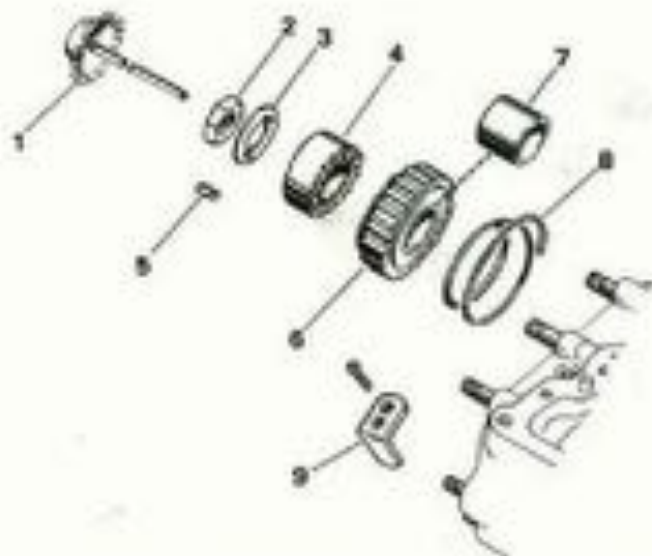

Figure 7-35. Starter Clutch — Exploded View
### Disassembly (Figure 7-35)
2. Remove the push rod assembly (1).
3. See Figure 7-35. Lock the transmission into two gears at once. Bend the lockwasher (5) tab away from the nut (2). Remove the nut and lockwasher.
5. See Figure 7-35. Remove the starter clutch key (5), gear (6) and spring (8).
### Assembly (Figure 7-35)
2. On 1978½-1979 models, see Figure 7-35. Remove the four screws (4), retaining plate (5) and oil deflector (6).